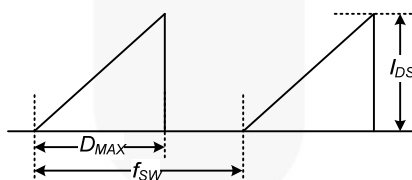

Figure 4. Repetitive Peak Switching Current
- Repetitive peak switching current when the inductive load is assumed: Limited by maximum duty ( $D_{MAX}=0.74$ ) and junction temperature (see Figure 4).